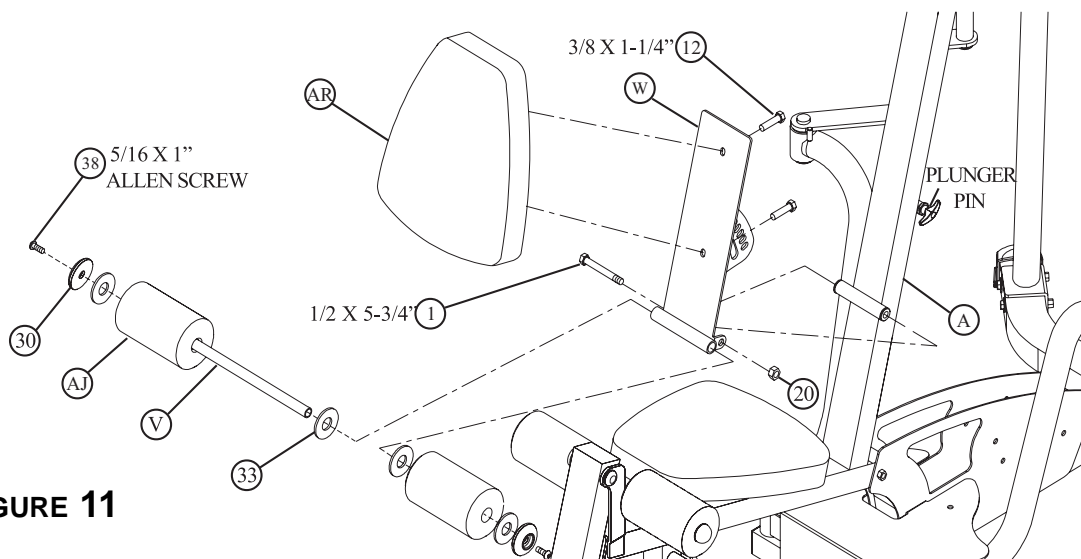

FIGURE 11
- **SECURELY** assemble the BACK PAD (AR) to the BACK INCLINE ADJUST (W) using two 3/8 X 1-1/4" BOLTS (12).
- **SECURELY** assemble the BACK INCLINE ADJUST (W) to the FRAME (A) using one 1/2 X 5-3/4" BOLT (1) and one 1/2" LOCK NUT (20). The BACK PAD angle can be adjusted using the PLUNGER. (**Note: Tighten this connection enough to remove excess play yet allow the BACK INCLINE ADJUST to rotate freely.**)
- Assemble two ROLLER PADS (AJ) to the BACK INCLINE ADJUST (W) using one 3/4 X 21" TUBE (V), four PLASTIC WASHERS (33), two ROLLER PAD CAPS (30), and two 5/16 X 1" ALLEN SCREWS (38) as shown in FIGURE 11.